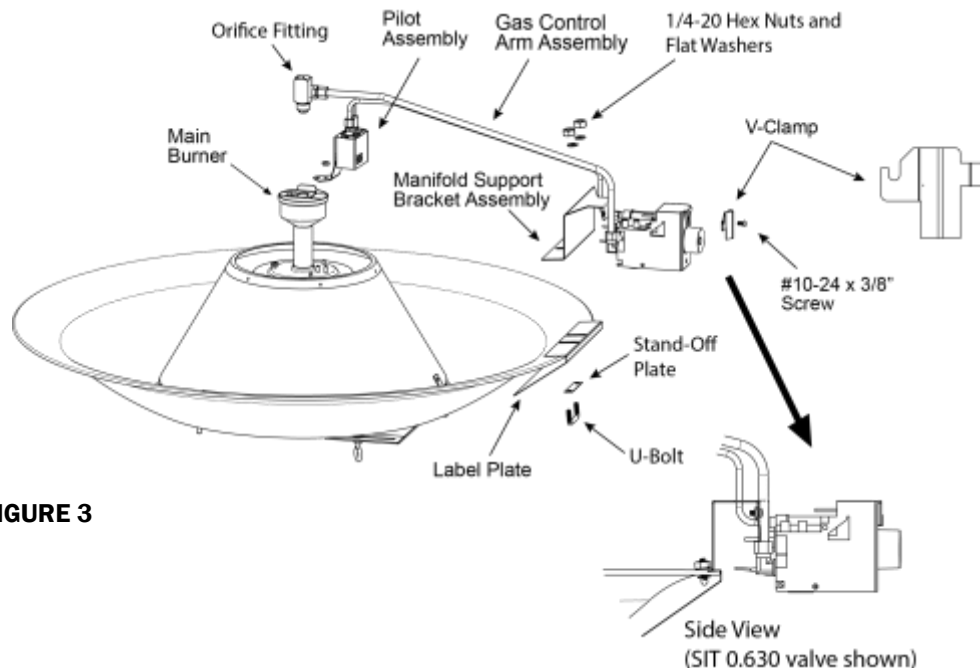

FIGURE 3
- Attach the Label Holder Plate and Manifold Support Bracket Assembly to the rim of the canopy using two (2) 1/4-20 hex nuts, washers, stand-off plate and U-bolt from the Fastener Kit. See Figure 3. **NOTE: DO NOT COMPLETELY TIGHTEN FASTENERS AT THIS STAGE YET.**
- Attach the Control Arm Assembly to the Manifold Support Bracket Assembly as shown in Figure 3 using the V-clamp and one (1) #10-24 screw. Insert the tab portion of the V-clamp into the Manifold Support Bracket Assembly. Secure the V-clamp using the #10-24 screw.
10. Tighten the screws and nuts holding the Manifold Support Bracket Assembly installed earlier above in Figure 3.
11. Attach the pilot holder bracket to the Burner Base using one (1) #10-24 hex locknut from the Fastener Kit.